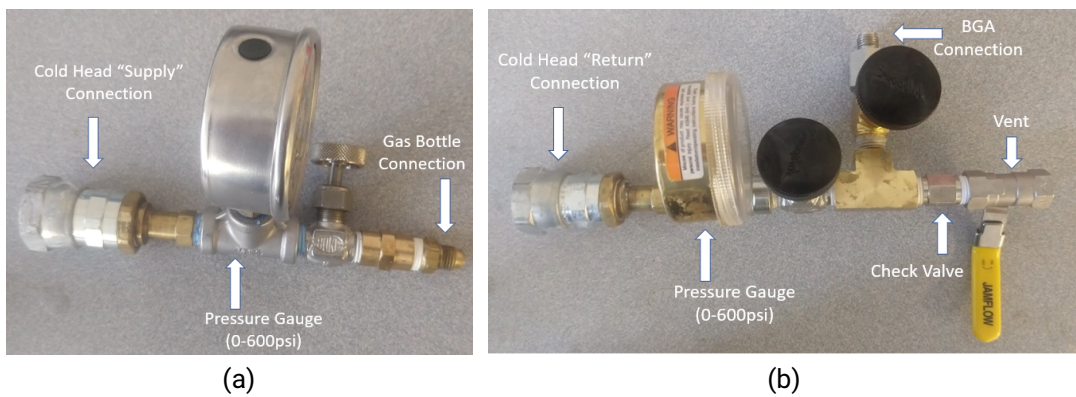

Figure 1: Aeroquip assemblies used during the cold head hot swap procedure. (a) is the supply side assembly and (b) is the return side assembly.
- Aeroquip assemblies with needle valves, pressure gauges (0-600psi), a tee with 1/8" connection for BGA (on return assembly), and a check valve (on return assembly). Pictured in Figure 1
4. Attach the supply and return assemblies (Figure 1) to their respective connections, making sure that all valves are closed.